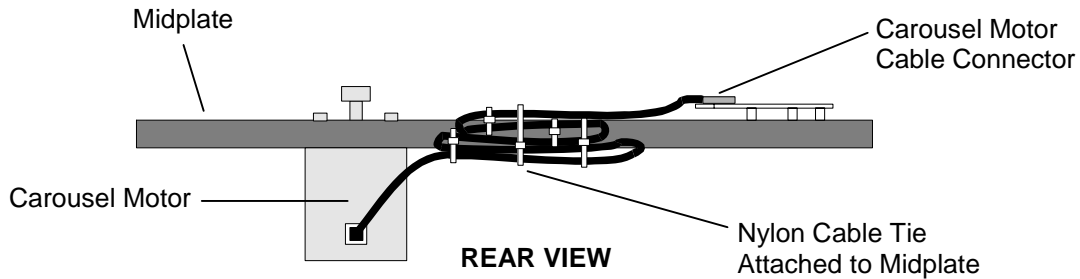

Figure 7-71 Carousel Motor Nylon Cable Ties at Rear of 62xx and 82xx Libraries
10. For TLS models 62xx and 82xx, remove the motor cable's nylon cable tie that is attached to the Midplate (Figure 7-71).
4. For TLS models 62xx and 82xx, replace the motor cable's nylon cable tie that was attached to the TLS Frame (Figure 7-71).